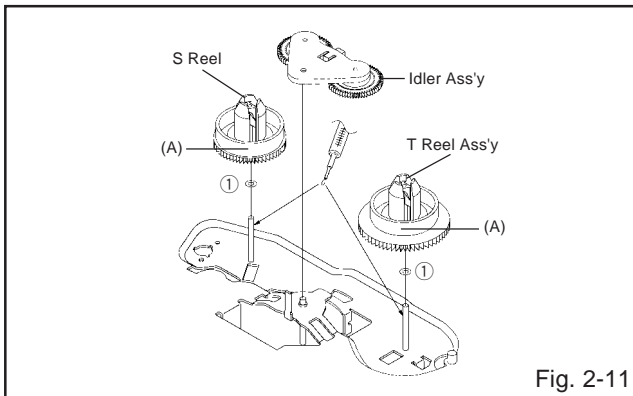

Fig. 2-11
## 2-11: S REEL/T REEL ASS'Y (Refer to Fig. 2-11)
4. Do not touch the section "A" of S Reel and T Reel Ass'y. (Use gloves.) **(Refer to Fig. 2-11)** Do not adhere the stains on it.